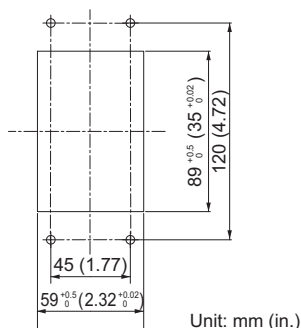

Figure 14 Panel Cut-out Dimensions (Internal/Flush-mount Installation)
1. Cut an opening in the enclosure panel for the option according to **Figure 14**.